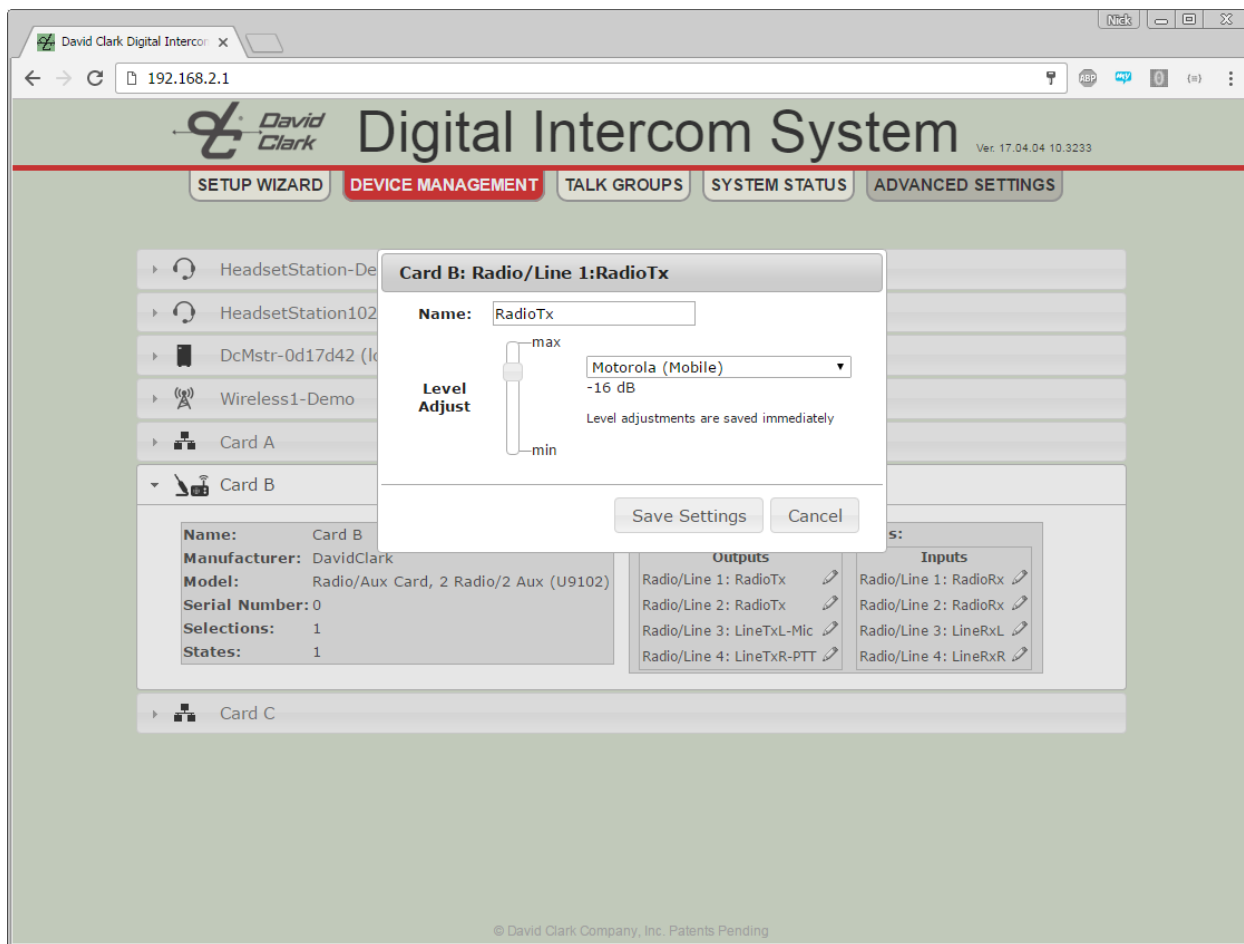

Figure 8.7
4. A Radio Card or Radio/Aux Card can have its channels renamed and levels adjusted. Audio level adjustments should not be made now. Instead, make these adjustments after talk group setup is complete. See **Figure 8.7**
- Audio levels - See **Figure 8.7**.